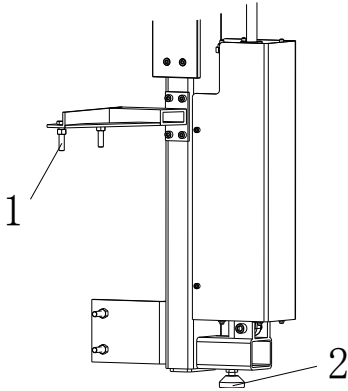

Fig 10
- 2) Fix the column on the body with four screw1 and adjust the support2 to a suitable location; **(Fig 10)**